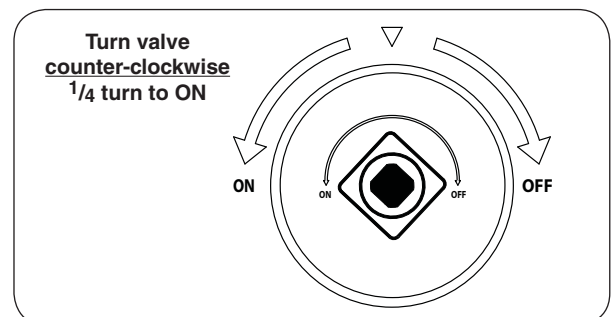

Fig. 41-2 ON/OFF key valve detail
3. Turn the ON/OFF key valve counter-clockwise a $1/4$ turn to the **ON** position (Fig. 41-2).